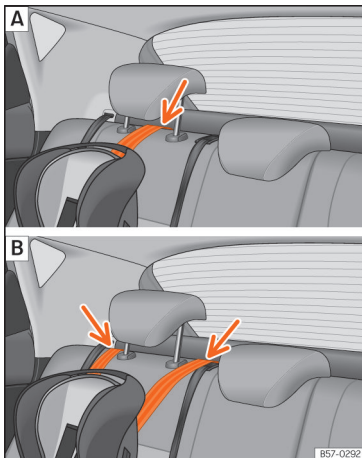

Fig. 41 Retainer strap: adjustment and assembly according to the Top Tether belt.
- Place the belt under the head restraint of the back seat »» Fig. 41 (depending on the instructions of the chair itself, lift or remove the head restraint if necessary).